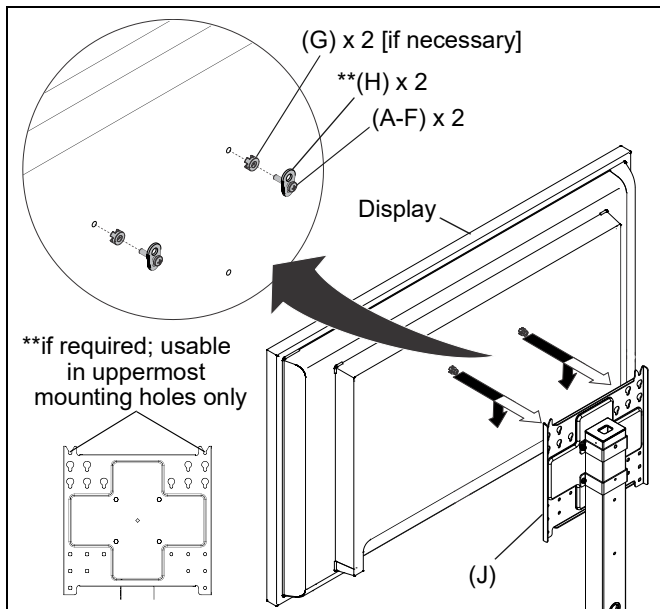

Figure 15
1. Select correct screws, nesting spacers (if necessary), and universal washers (if required) from the hardware bag (A-H) and partially install into two upper mounting holes in display. (See Figure 15)
3. While supporting both sides of display, align two screws (A-F) installed in display with two mounting holes in the face plate assembly (J). (See Figure 15)